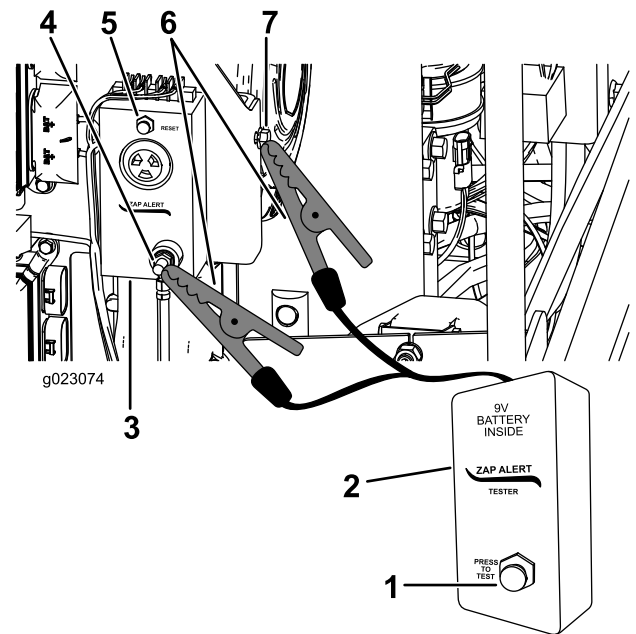

Figure 17
5. Press the Test button on the Zap-Alert tester (Figure 17).
6. Press the Zap-Alert reset button to stop the alarm (Figure 17).
3. Connect an alligator clip from the Zap-Alert tester to the grounding stud on the Zap-Alert system (Figure 17).